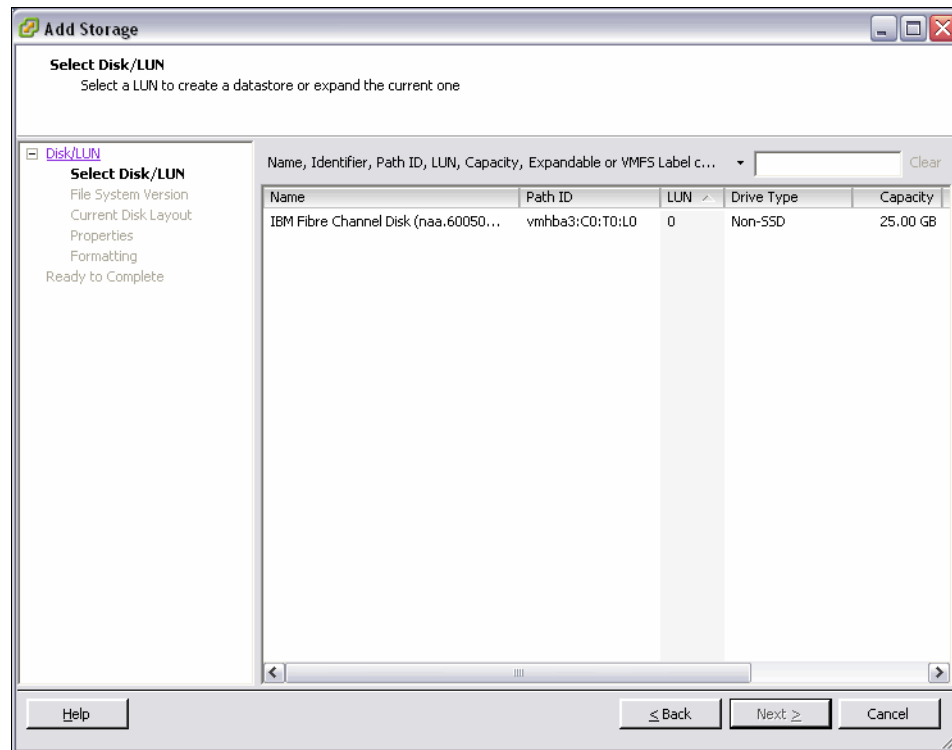

Figure 5-56 Select Disk/LUN menu
6. The Add Storage wizard opens. Click **Select Disk/LUN** and then click **Next**. The IBM Storwize V3500 disk opens, as shown in Figure 5-56. Highlight it and click **Next**.